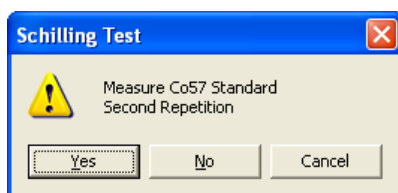

Figure 10-18
**Note:** If the number of **Repetitions** in the setup has been set to 2, each measurement, except for the room background, will be repeated twice. You may skip the second repetition, if desired, by clicking the  button as shown in Figure 10-18.